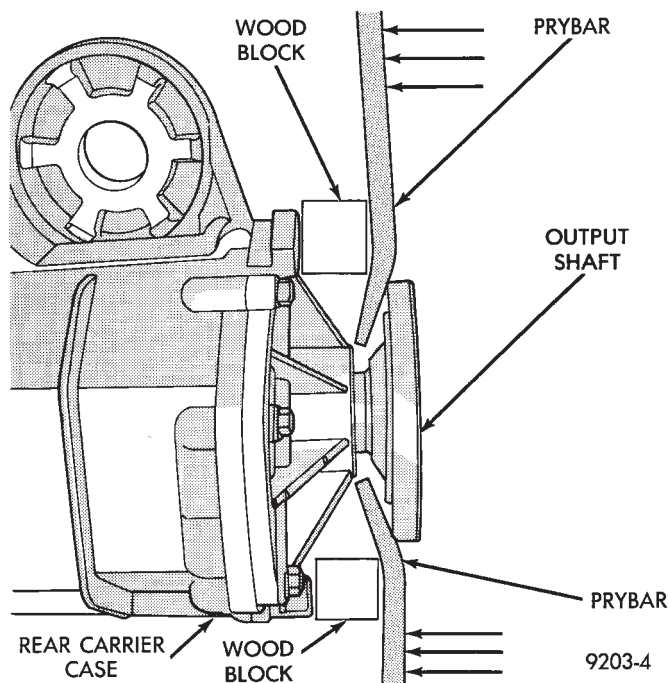

Fig. 4 Output Flange Removal
(3) Using two pry bars and wooden support blocks, pop out output shaft (Fig. 4).